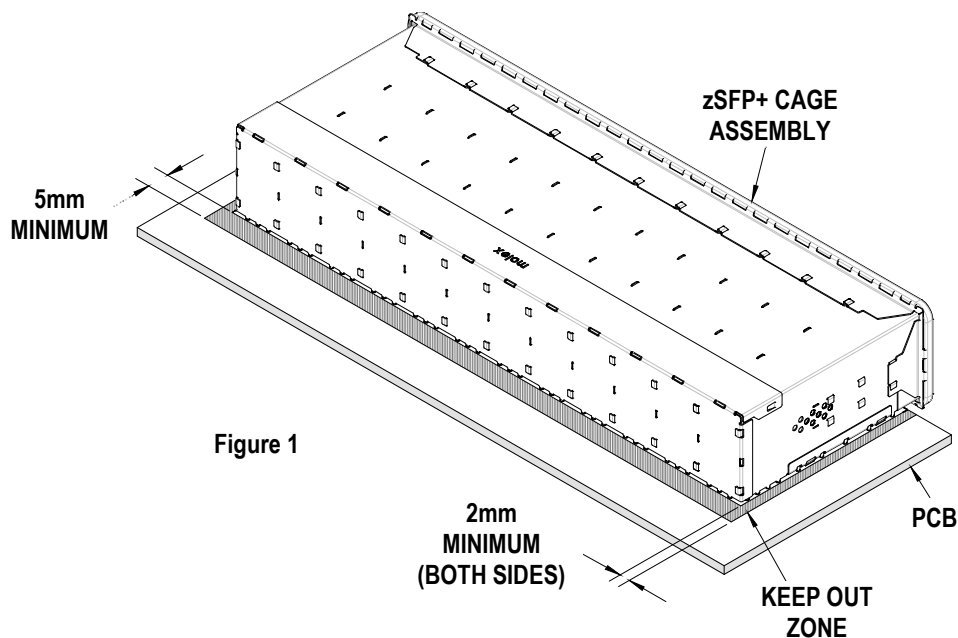

Figure 1
2. These tools require a “Keep Out Zone” around the connector free of components. The right and left sides should be 0.08” (2mm). The rear of the connector should be .197” (5.0mm). See Figure 1.